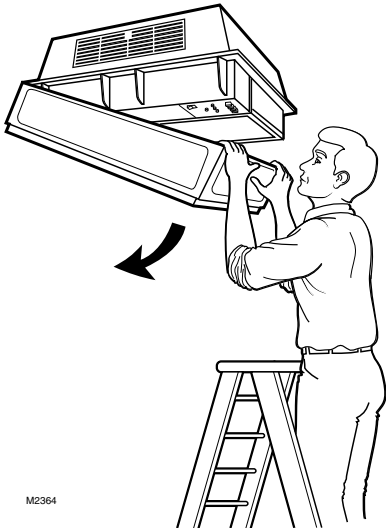

Fig. 5. Opening the F90A Cover.
- Open the cover by pulling the two latches located on the front of the cover and swinging the cover down until it hangs (see Fig. 5).